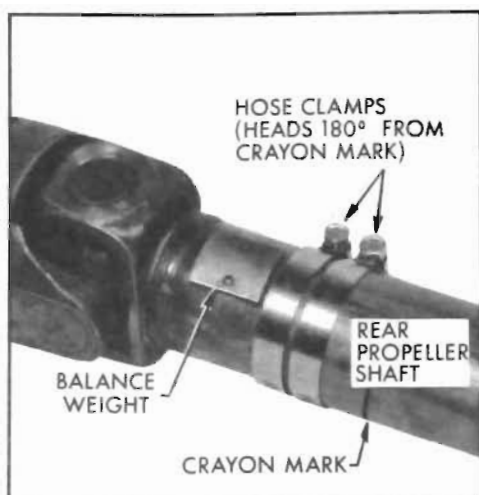

Figure 6-56—Balance Hose Clamps in Place
3. Install two Whittek #28 hose clamps (Gr. 1.166, Part #1351813) on propeller shaft as shown in Figure 6-56. Position each clamp with heads 180° from crayon marking. Tighten clamps.